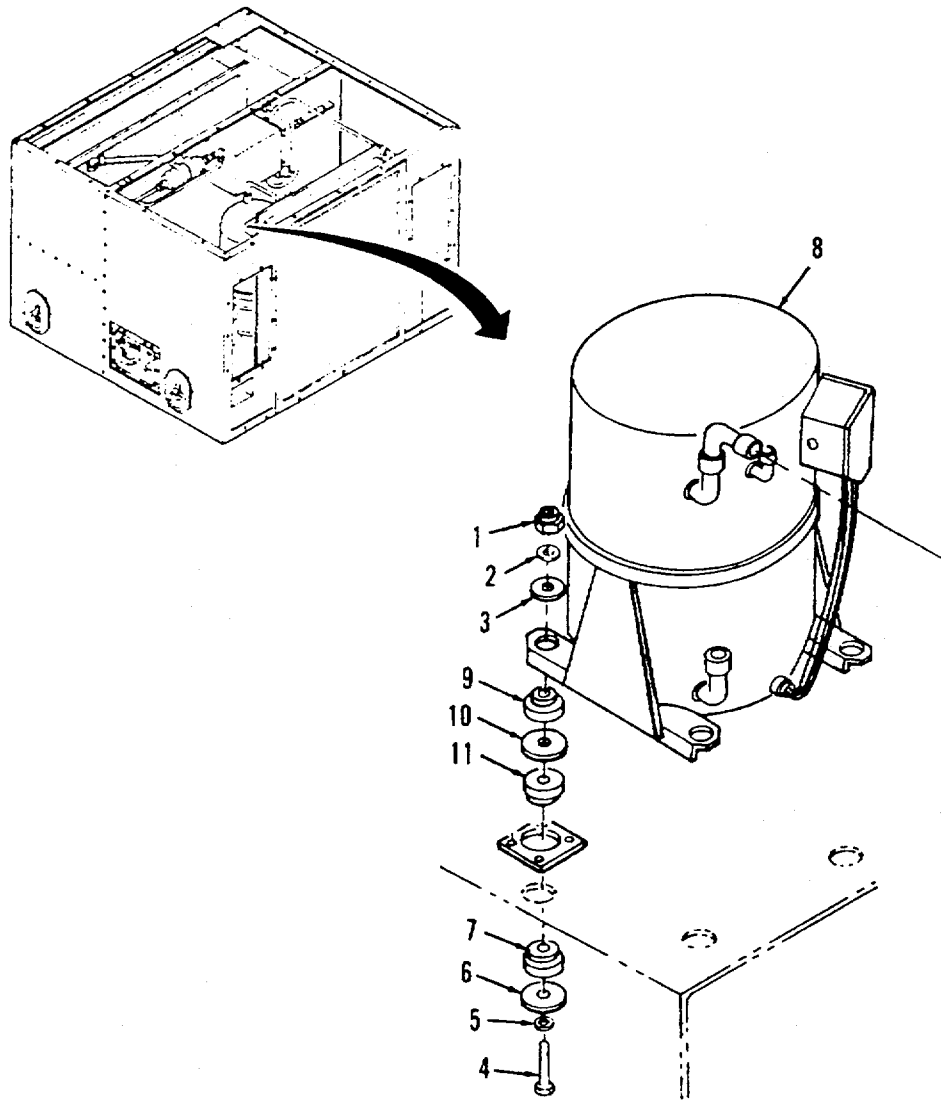

Figure 4-23. Compressor (B1).
1. Install thermal cutout switch (10) into crankcase of compressor.
2. Refer to tags installed during thermal cutout switch removal and solder thermal cutout switch wires to jumper wires of connector and to terminal H of J4 connector (7).
3. Install junction box (1), two lock washers (3), and two screws (2).
**c. Compressor Removal.** (Refer to Figure 4-23).
- (1) Remove four nuts (1), four flat washers (2), and four large flat washers (3).
- (2) Remove four bolts (4), four flat washers (5), four large flat washers (6), and four resilient washers (7).
- (3) Lift or tilt the compressor (8) and remove four resilient washers (9), four large flat washers (10), and four compressor mounting bushings (11) from beneath the four mounting feet of the compressor.
- (4) Debraze tubing attached to compressor (see para. 4-7).
- (5) Carefully lift compressor (8) from air conditioner.